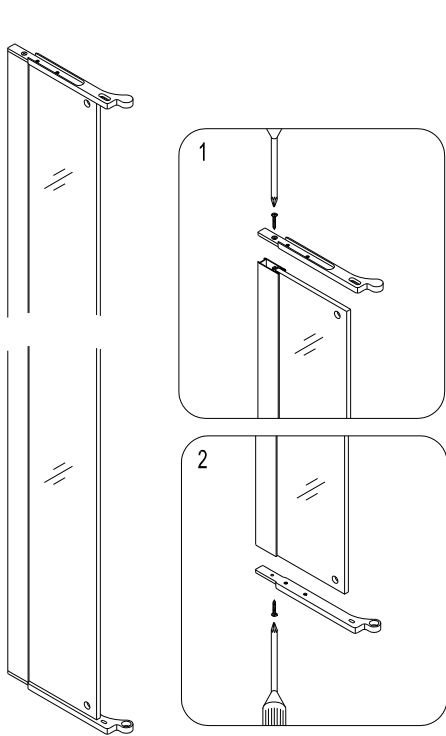

Fig 5
5. Push the upper **Pivot bracket (9)** into the top groove of the **Glass profile for stationary glass (2)**; then secure it and the profile with **Flat head screws ST4.2×25 (17)**. Repeat the same steps for the bottom pivot bracket (9). See Fig 5 for details.